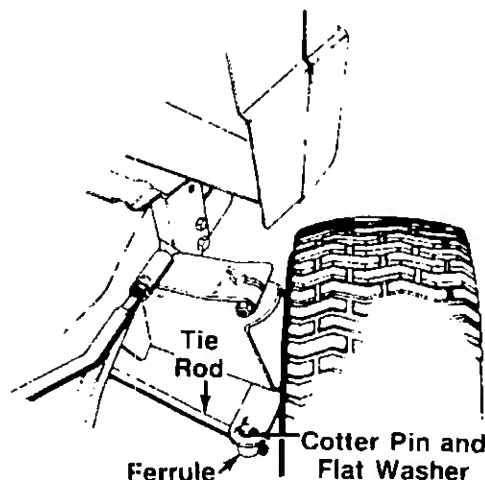

FIGURE 17.
1. Remove the cotter pin and flat washer from the ferrule on the tie rod end on the right side of the tractor. See figure 17.